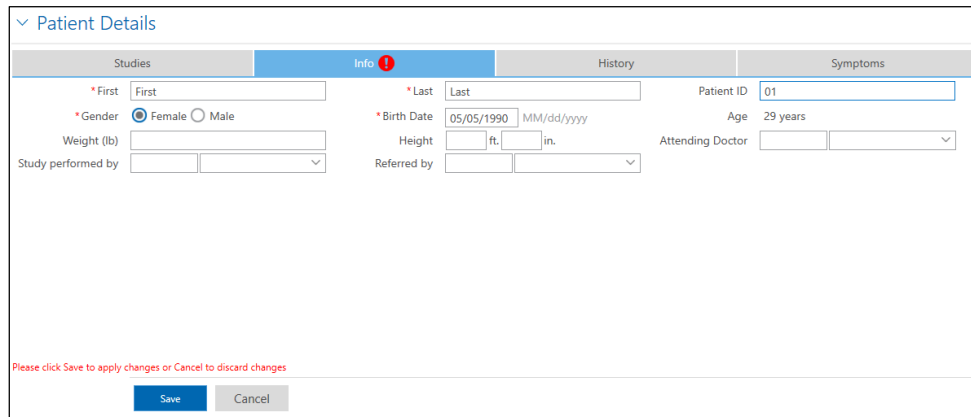

Figure 35: Default Patient Details
2. Enter the patient details in the **Patient Details** section under the **Info** tab (Figure 35).
The **Patient Details** section (Figure 35) in the Main Window allows the user to: